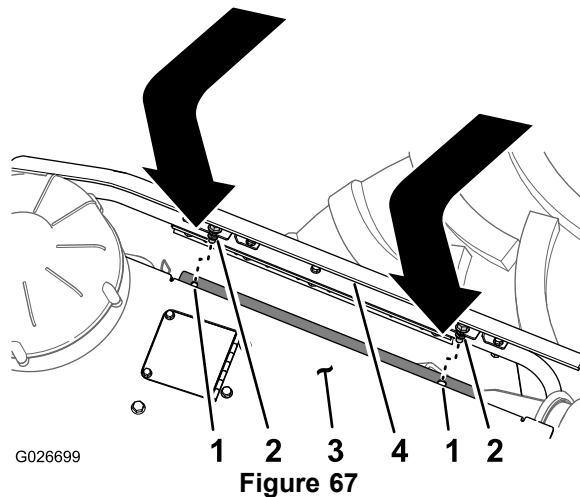

Figure 67
2. Align the mounting bolt at the top of the side panel with the hole in the support flange of the hood panel (Figure 67).